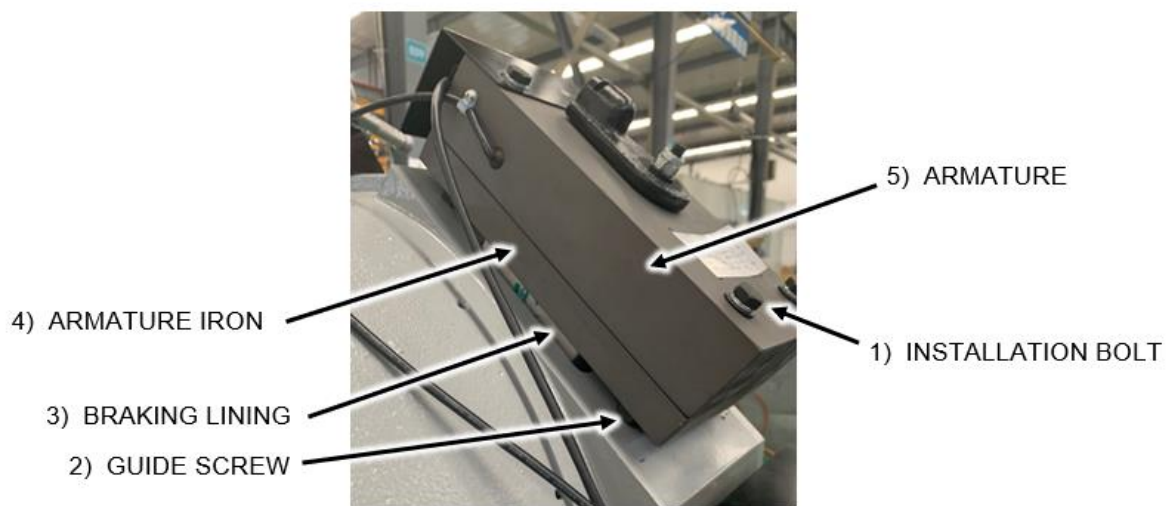

Figure 31
7. Adjust the guide screw sleeve of guide screw 2 and the mounting bolt of insulation bolt 1, so that the air gap between the armature of armature 5 and the armature of armature iron 4 is between 0.012" (0.30 mm) to 0.022" (0.55 mm), the gap between the brake belt and the brake wheel is 0.004" (0.10 mm) to 0.006" (0.15 mm), and the distance between the guide screw sleeve of guide screw 2 and the iron surface of armature iron 4 is about 0.197" (5 mm). no less than 0.118" (3 mm) under any conditions, as shown in Figure 31